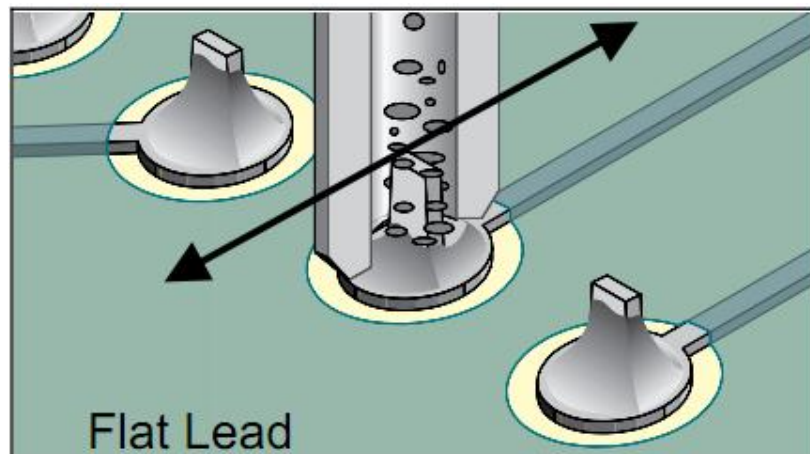

Figure 4 Move Lead & Apply Vacuum
12. For a flat lead, move lead back and forth; for a round lead, use a circular motion and apply vacuum while continuing lead movement. (See Figures 4&5.)